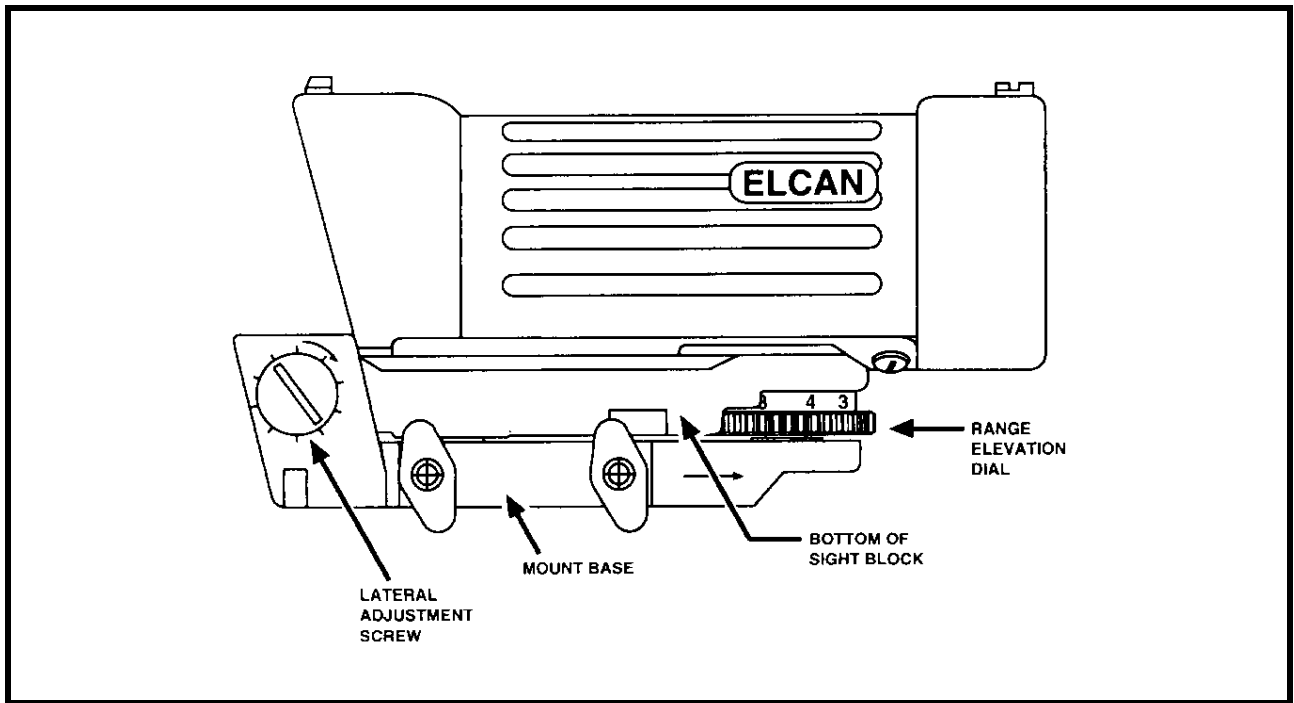
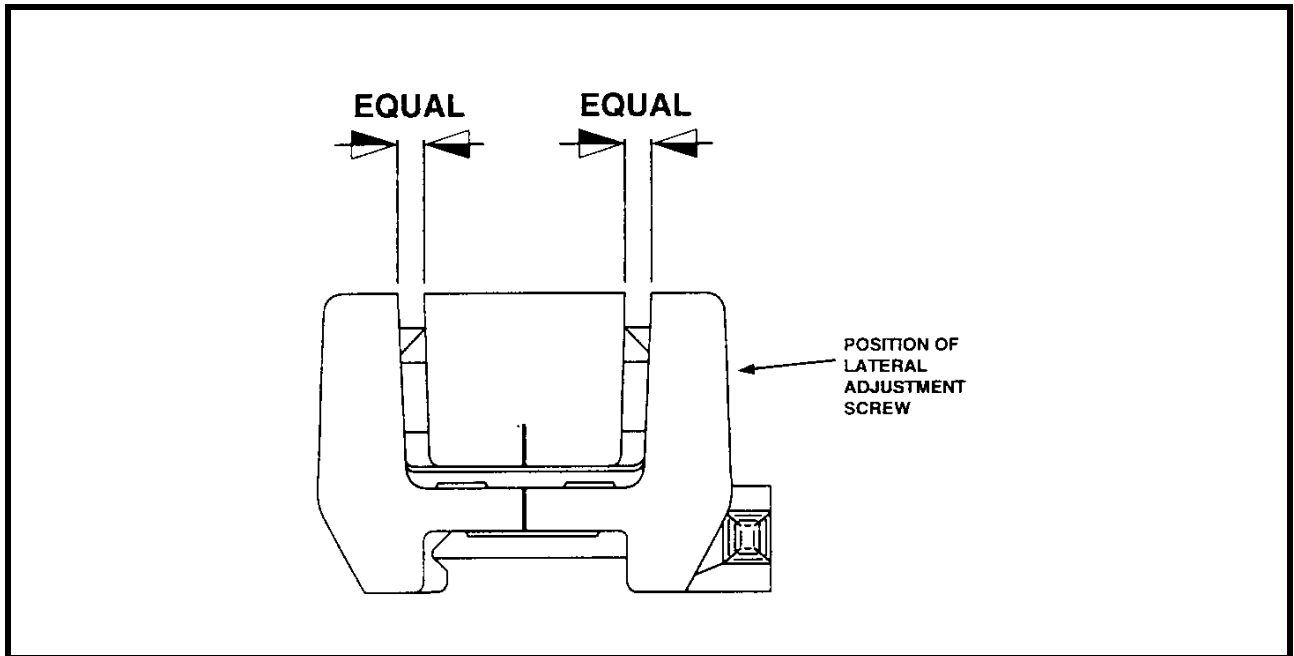

Figure 4-6 Optical Sight Assembly - Side View
Figure 4-7 Optical Sight Assembly - Front View
- (3) **Step Three.** Turn the range/elevation dial until the space between the bottom of the sight block and the mount base is approximately parallel. This is important in order for the first shot group to be on the target paper (see Figure 4-6).
- (4) **Step Four.** With a pointed instrument, flip the range dial lock down to the lock position.
- (5) **Step Five.** Using a coin or the screwdriver on the C5 knife, turn the lateral adjustment screw until the spaces shown in Figure 4-7 are equal. The sight is now dry zeroed and ready for zeroing.
27. **Lateral Adjustment.** The lateral adjustment screw is located forward and left on the sight (see Figure 4-6). The screw can be adjusted with a C5 knife, coin or similar item and is used to make lateral adjustments to the MPI during the zeroing procedure. The lateral adjustment screw is used as follows: